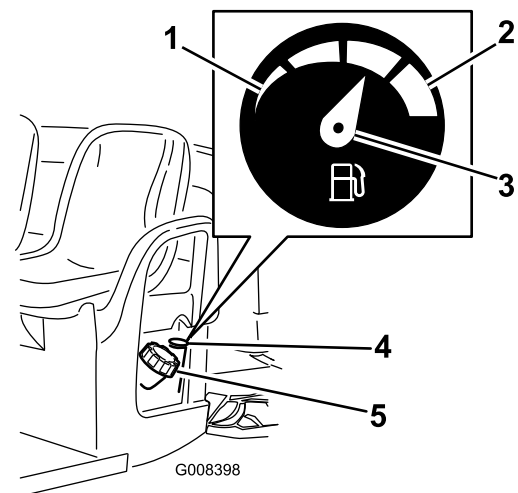

Figure 10
2. Clean the area around the fuel tank cap (Figure 10).